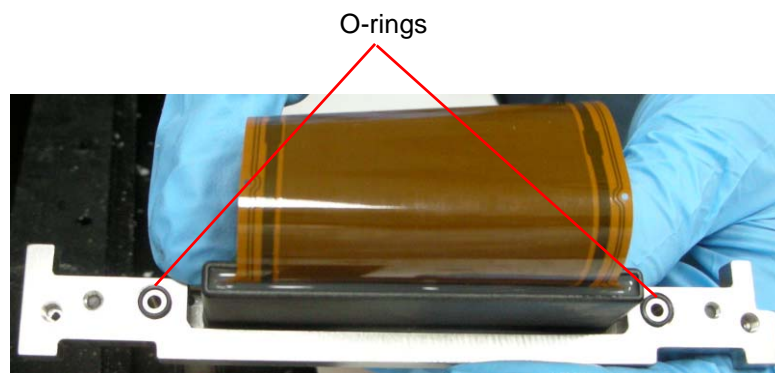

Figure 100 Print Head
32. Inspect the replacement head and make sure that the O-ring seals are in place (see Figure 100 on page 75).
36. Inspect the original/replacement head and make sure that the O-ring seals are in place (see Figure 100 on page 75).